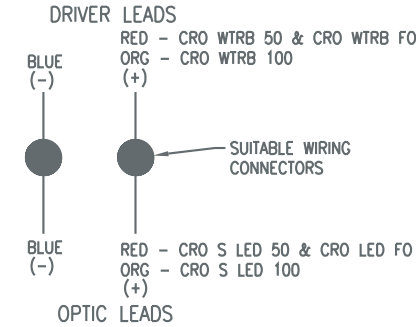

FIGURE 3
4. Make secondary, then primary, driver wiring connections. See Figures 3, 4, and 5 below. Re-install driver box cover.
3. Make secondary, then primary, driver wiring connections. See Figures 3, 4, and 5 above. Re-install cover.